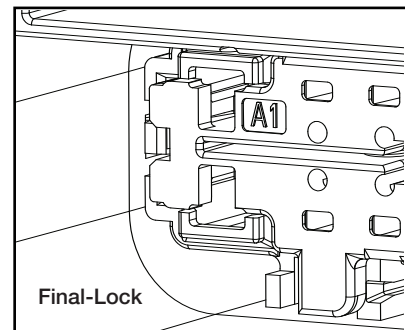

FIGURE 5
- Make sure TPA is in the “pre-lock” position in the female housing. See Figures 5 and 6.
- Once all the terminals are inserted in the correct position, then press the TPA into the “final lock” position as shown in figure 5. If the TPA will not move into the final-lock position, verify that all terminals are fully seated.